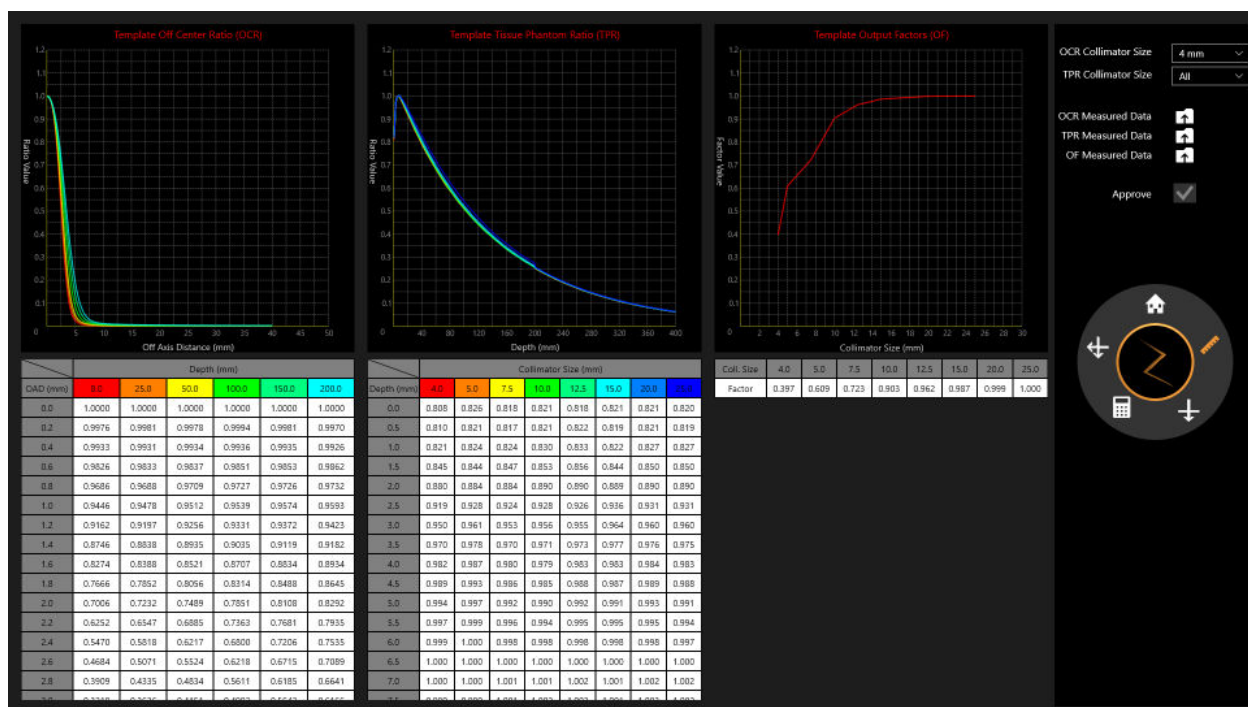

Figure 10.3: Beam Data Page
2. Beam data page will appear (see Figure 10.3)